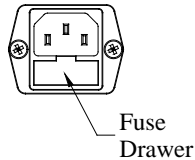

Figure 11
- Pull back on the fuse drawer (see Figure 11).